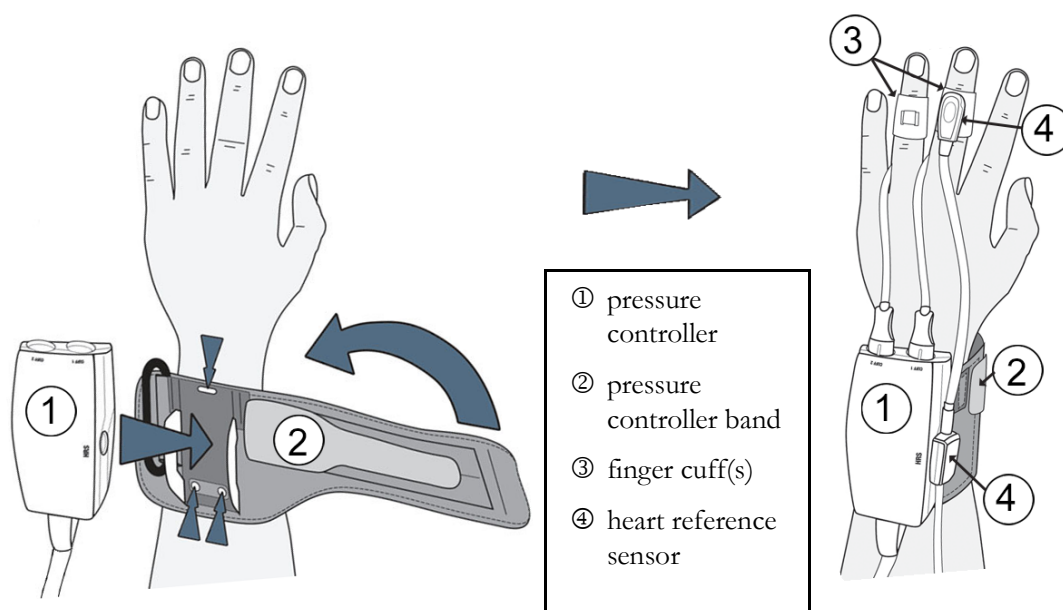

Figure 11-2 Pressure controller application
The pressure controller is worn on the patient's wrist and connects to the HemoSphere ClearSight module, HRS and finger cuff(s). See figure 11-2.
- 1 Wrap the pressure controller band around the patient's wrist. The non dominant hand is preferred for monitoring in awake patients. (figure 11-2, left)